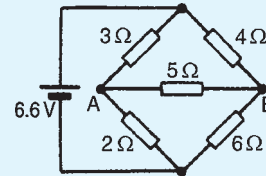

Figure 13.52
5. For the bridge network shown in Fig. 13.52, find the current in the  $5\ \Omega$  resistor, and its direction, by using Thévenin's theorem. [0.153 A from B to A]